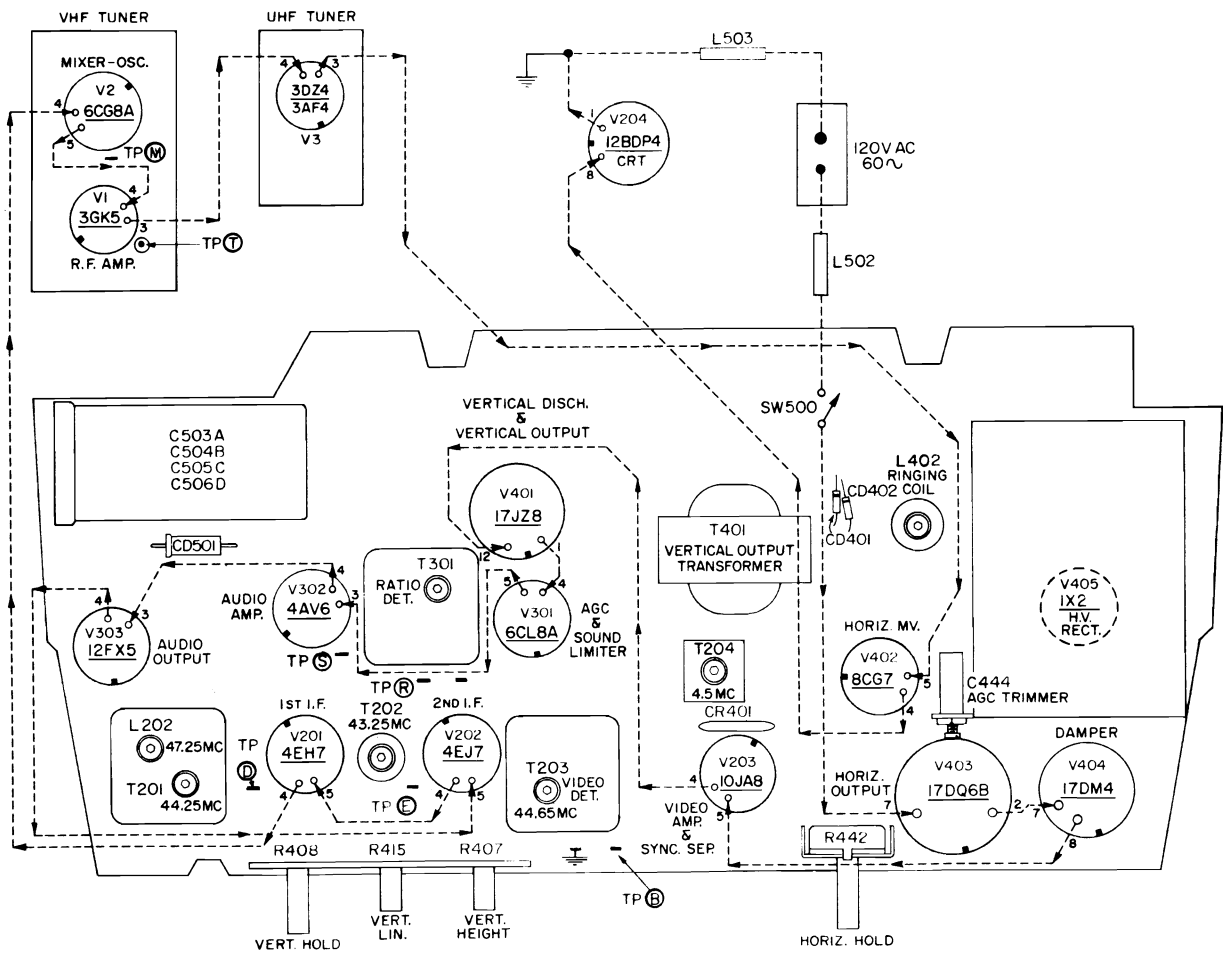

Figure 3 - Top View of Chassis.
2. Inject a 4.5 MC CW signal, through a .0047 capacitor, at TP ⑥.
3. Connect the -4 volt bias source through a 39K resistor to TP ⑥. Connect the positive bias-source terminal to ground.
4. Set the VTVM to its -10 to -15 volt range, and connect it across TP ⑥ and ground.
6. Disconnect the VTVM from TP ⑥.
7. Connect two 100K resistors in series across TP ⑥ and ground.
8. Set the VTVM for its lowest d-c range, and connect it across the center connection of the 100K resistors and TP ⑥ (see Figure 3).